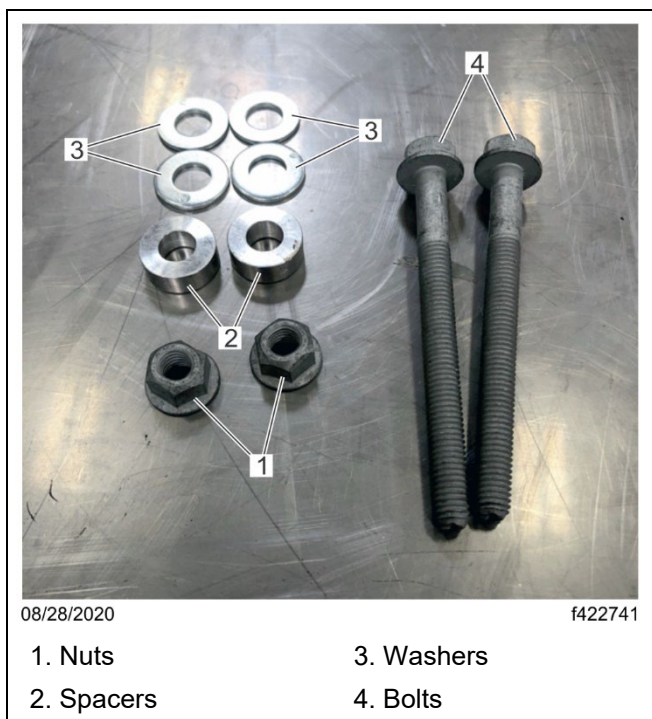
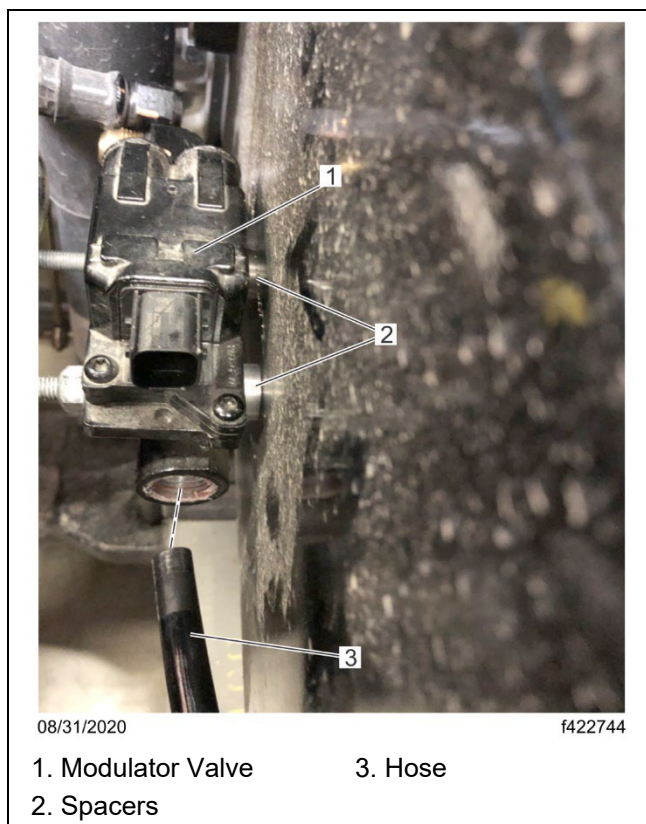
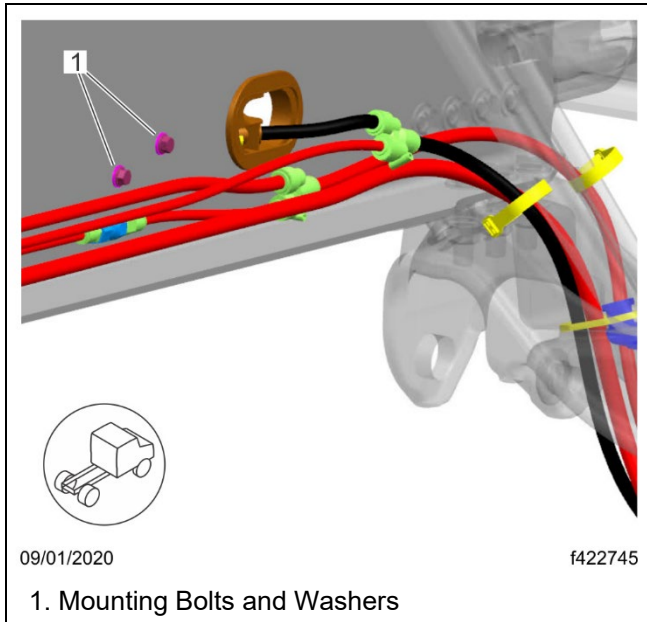
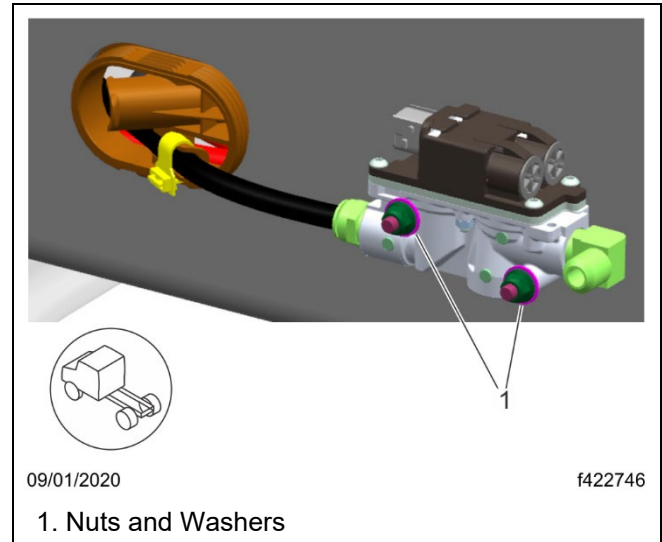

Fig. 10, 25-FL958-000 Kit Components
Fig. 11, Installing the Spacers
Fig. 12, Modulator Valve Fasteners, Inside Frame Rail View
Fig. 13, Modulator Valve Fasteners, Outside Frame Rail View
11. Use a 1/2-inch socket wrench along with the new bolts, spacers, and washers (supplied in the kit) to install the modulator on the vehicle. Tighten the bolts 11 lbf·ft (15 N·m). See Fig. 10, Fig. 11, Fig. 12, and Fig. 13.